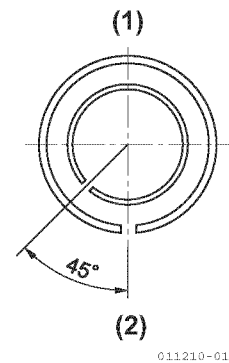

Figure 9-13
- Insert the abutment as shown in **Figure 9-13**.